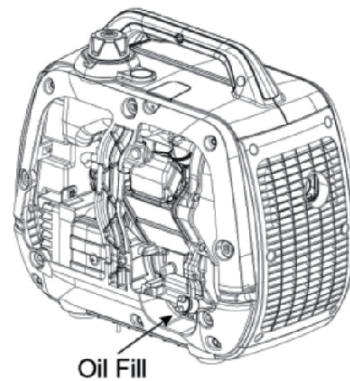

Fig. 13B
2. Remove the oil filler cap. (Fig. 13B)